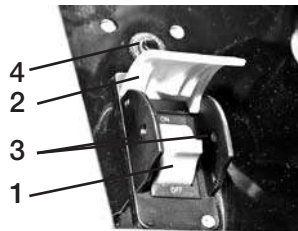

FIG 19
ON/OFF SWITCH (FIG 19)
OVERLOAD RESET SWITCH (FIG 19)
Your saw is equipped with an overload reset switch (4-FIG 19) that will allow the motor to be restarted after it shuts off due to overloading or low voltage. If motor stops during the operation, take the following steps:
3. Push in the reset button (4-FIG 19).